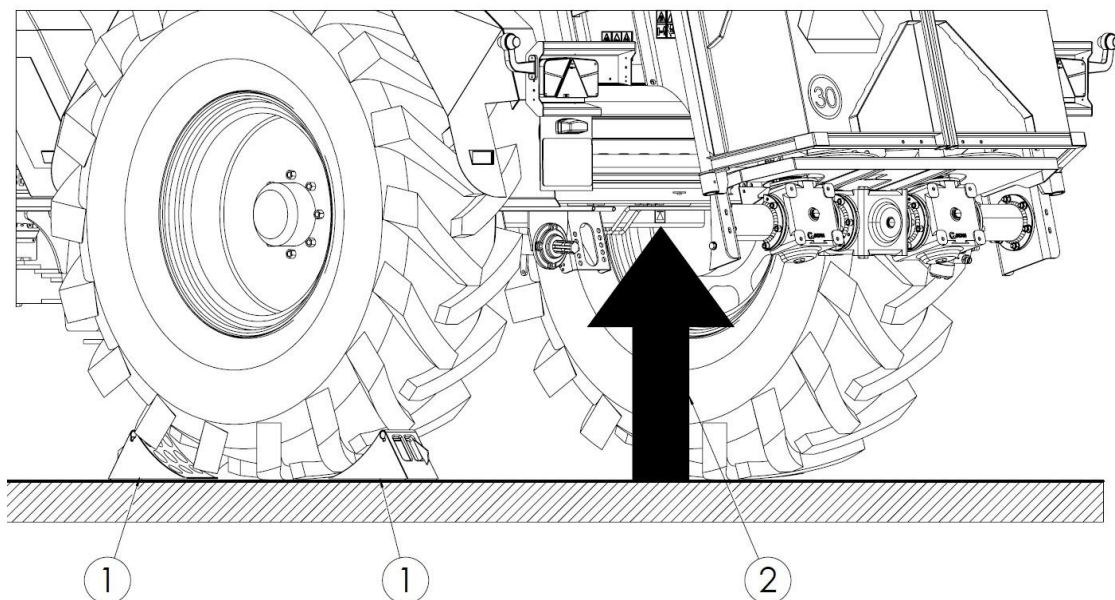

Fig. 47. Jacking points: 1 – chocks, 2 – jack
If it is necessary to disassemble the wheel, observe the jacking points (2) under the axle. See Figure 47 for the jacking points. Place the protective chocks (1) under one wheel only.